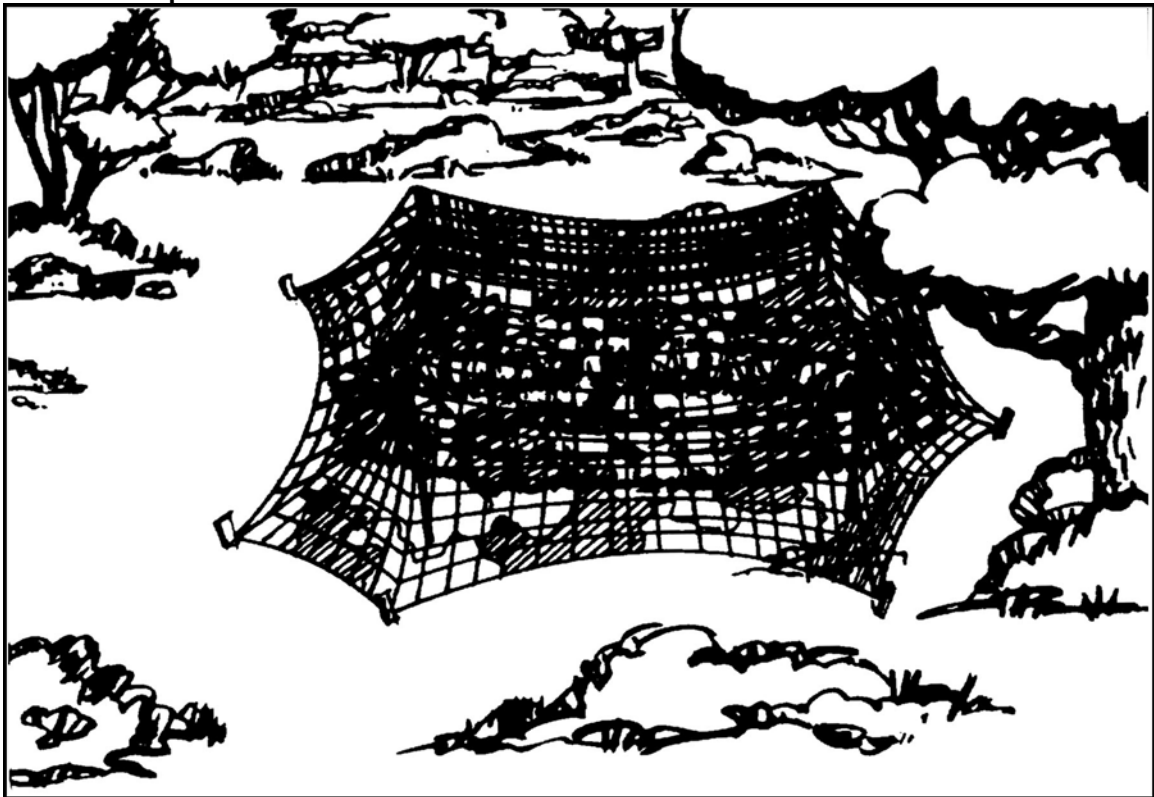
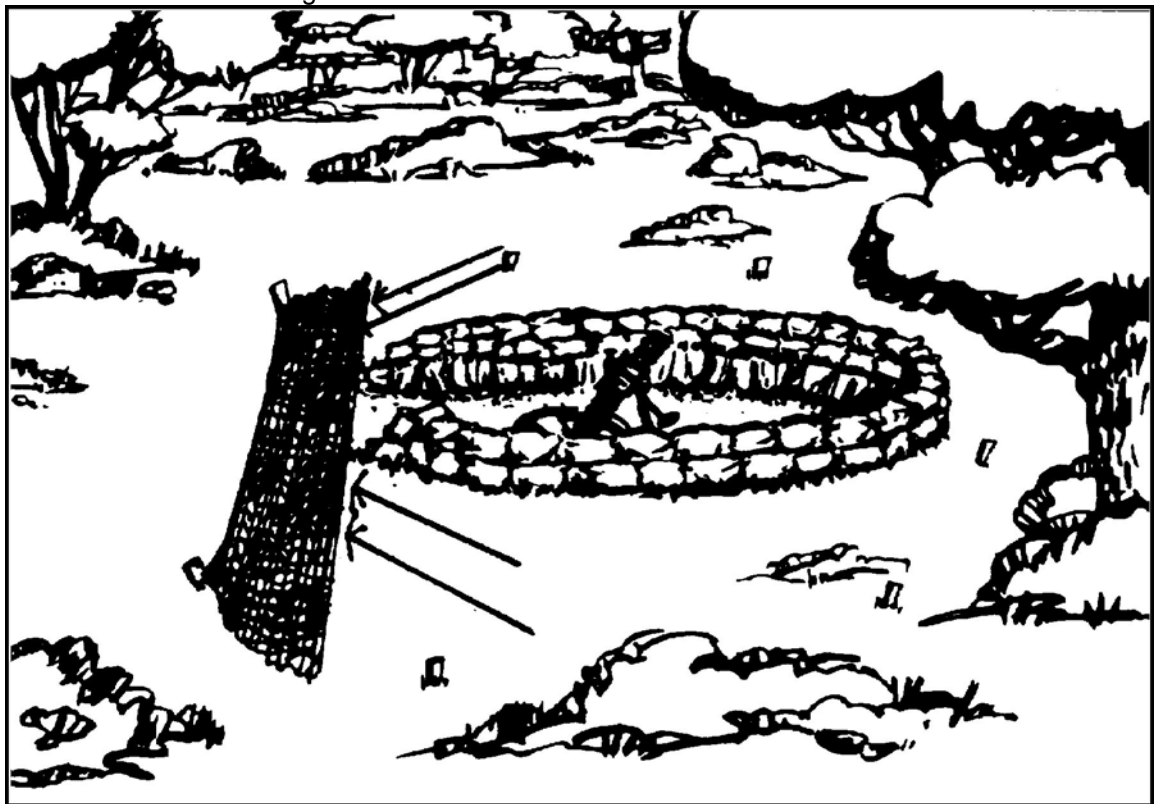

Figure 3. Net with sides and corners staked down.
Figure 4. Net released from stakes.
- (3) When using poles or small trees, drape the nets over the mortar position or carrier to break up the outline. This is important when the mortars are carrier-mounted.
- (4) In using nets to camouflage the mortar position, set up and secure the side of the net in the direction of fire so that it can be dropped quickly to let the mortar fire.
- (a) In the ground-mounted or carrier-mounted role, place two poles on the direction-of-fire side of the net just even with or forward of the front edge of the mortar position with the corners staked down (Figure 3). When a fire command is given, two crew members release the net from the stakes. Then, using the two front poles, they lift the net over and lay it behind the mortar (Figure 4).